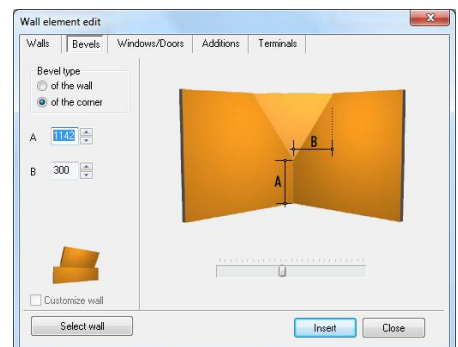

Fig. 92 – inserting the bevel of the corner
- you can also define the type of the bevel's edge: straight connected to the wall, straight separated from the wall or oblique (Fig. 92);